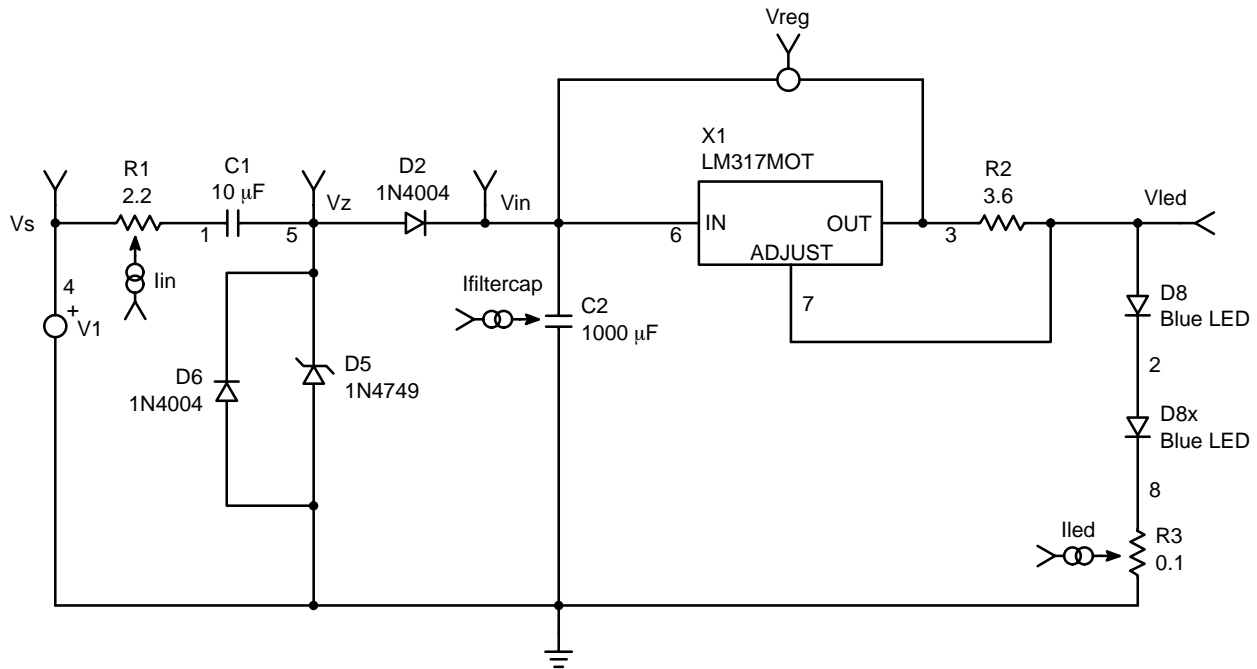
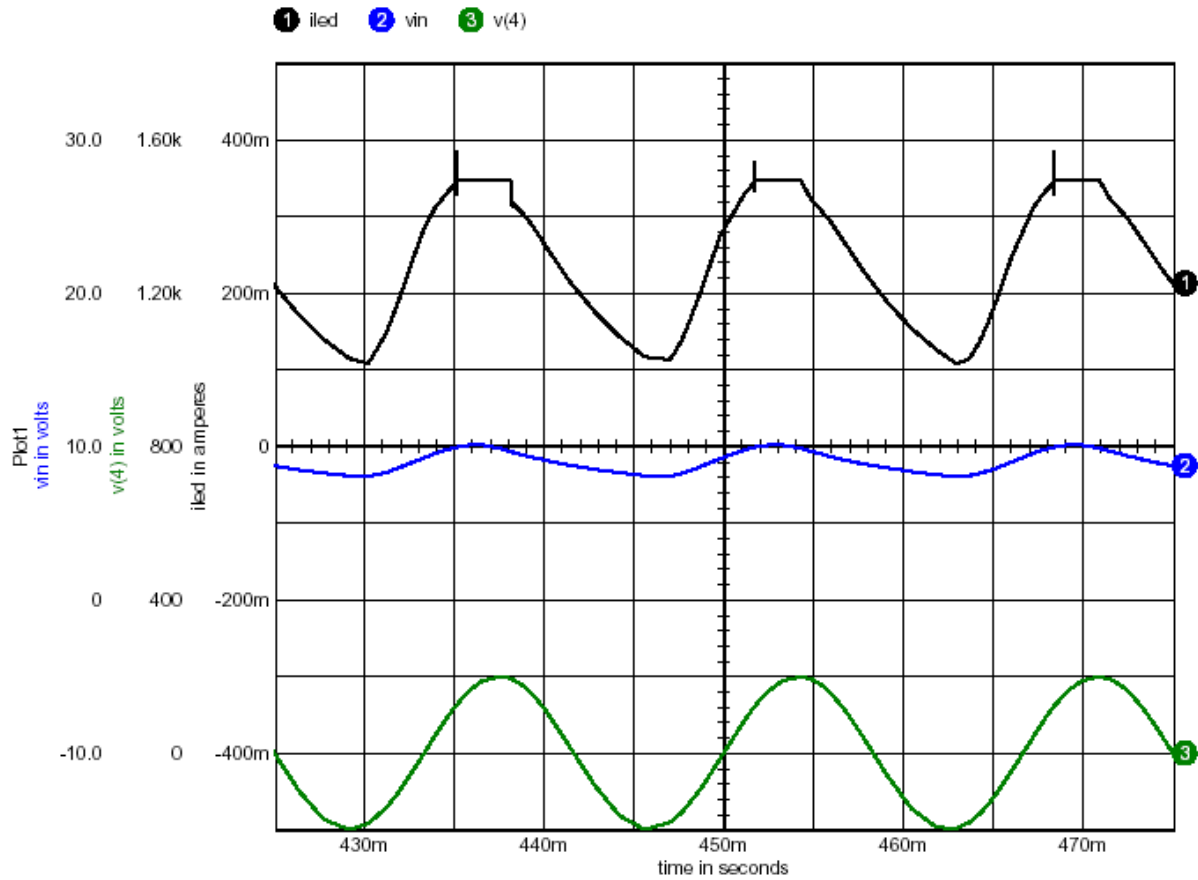
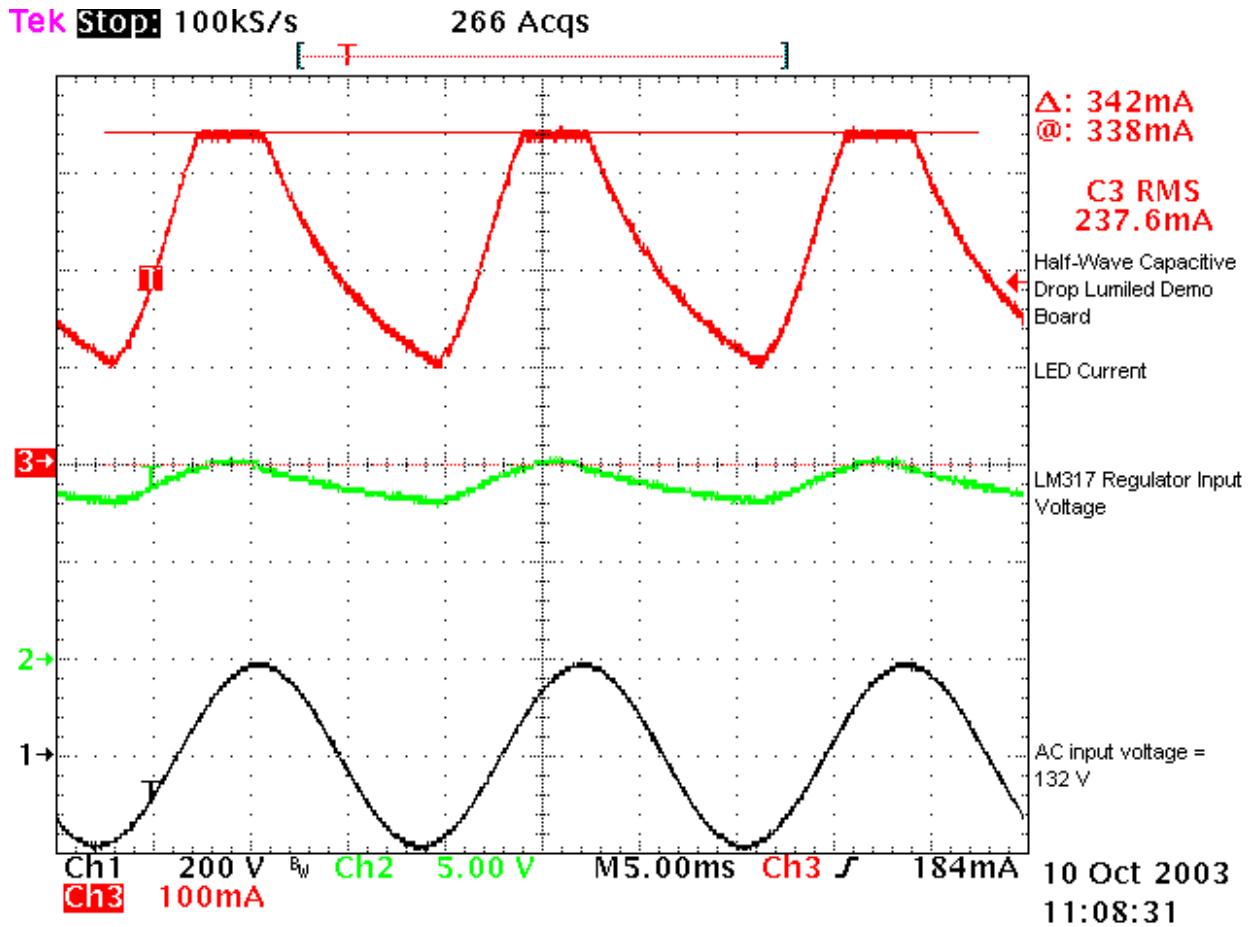

Figure 6. Half-Wave Capacitor Drop Lumiled Circuit
Figure 7. Simulation Results of Half-Wave Capacitive Drop Circuit
Figure 8. Oscilloscope Measurements of Half-Wave Capacitor Drop Lumiled Circuit
The half-wave capacitive drop circuit was simulated on IsSPICE from Intusoft with the schematic as shown in Figure 6.
where k is Boltzmann's constant (1.38×10^{-23} J/K), T is the absolute temperature (K), and q is the charge on an electron. At 350 mA the forward drop for a blue LED from Lumileds is about 3.5 V. Letting $N = 2$, Equation 4 can be solved for I_o . Modifying the IsSpice model with these numbers yields the simulation results shown in Figure 7.
Figure 7 shows the LED current, the DC input voltage to the LM317 regulator, and the 132 Vac input voltage.
The circuit shown in Figure 6 was built and tested. The results of the actual waveforms are shown in Figure 8. The
simulation results shown in Figure 7 show good correlation with the actual waveforms shown in Figure 8. The LED model appears to be a good first order model.